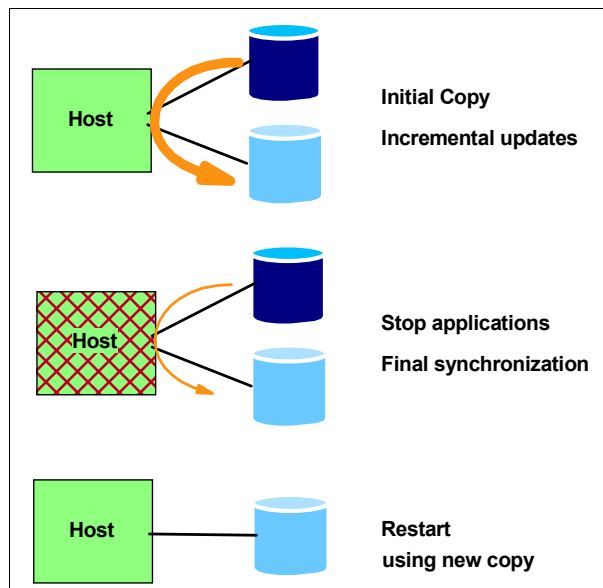

Figure 16-3 Data migration with rsync
**rsync** can also be used for local mirroring and therefore for data migration. It allows you to copy the data while applications are writing to it and thus minimizes the disruption. As for the normal copy commands, **rsync** works on file systems only. It also allows consolidation. Figure 16-3 shows the steps required.